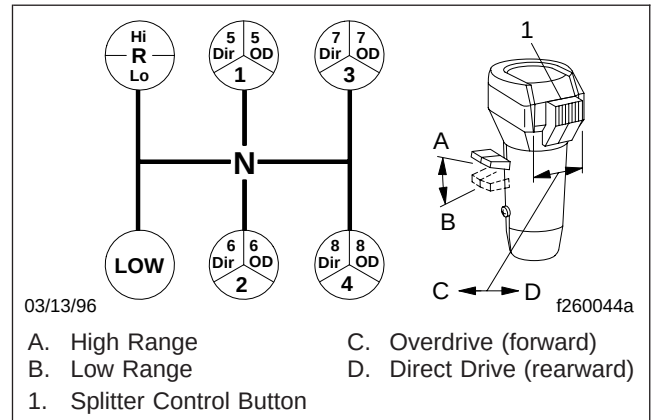
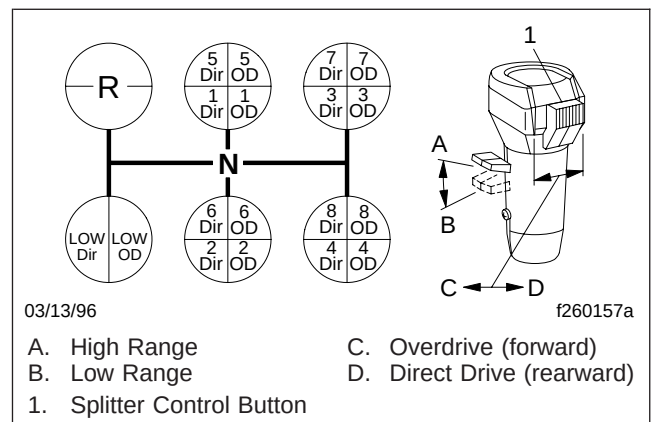

Fig. 8.17, Eaton Fuller 13-Speed Transmission Shift Pattern
Fig. 8.18, Eaton Fuller 18-Speed Transmission Shift Pattern
Eaton Fuller 13-speed transmissions have thirteen forward speeds and two reverse speeds. Each transmission has a 5-speed front section, and a 3-speed auxiliary section. The auxiliary section contains low and high range ratios, plus an overdrive splitter gear. See Fig. 8.17 for the shift pattern.
Eaton Fuller 18-speed transmissions have eighteen forward speeds and four reverse, consisting of a 5-speed front section and a 3-speed auxiliary section. The auxiliary section contains low and high range ratios, plus an overdrive splitter gear. See Fig. 8.18 for the shift pattern.
2. Position the range preselection lever down, into low range. See Fig. 8.17 for 13-speed transmissions and Fig. 8.18 for 18-speed transmissions.
To shift from low direct to low overdrive, move the splitter control button (Fig. 8.18) into the overdrive (forward) position, then immediately
Shift upward from low to 1st gear, 2nd, etc. until 4th gear, double-clutching between shifts, and accelerating to 80 percent of engine governed speed. See Fig. 8.17.
Shift upward from low overdrive to 1st direct by first moving the splitter control button into the direct (rearward) position (Fig. 8.18). Move the shift lever, double-clutching, to the 1st gear position.
To shift from 5th direct to 5th overdrive, move the splitter control button (Fig. 8.17) into the overdrive (forward) position, then immediately release
To shift from 5th direct to 5th overdrive, move the splitter control button (Fig. 8.18) into the overdrive (forward) position, then immediately release the accelerator. Press and release the clutch pedal. After releasing the clutch, accelerate again.